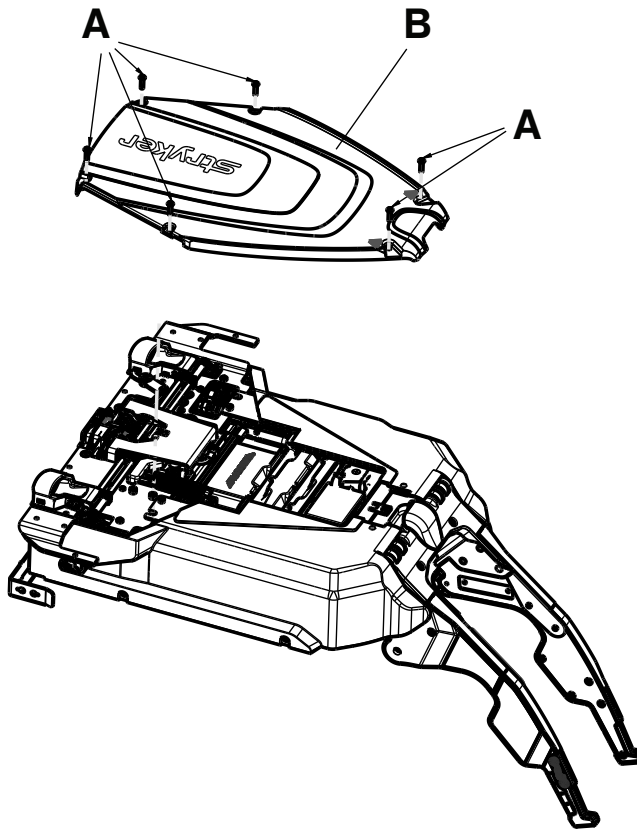

Figure 13 – Trolley top cover
1. Using a T25 Torx driver, remove the six screws (A) that secure the trolley top cover (B) (Figure 13).